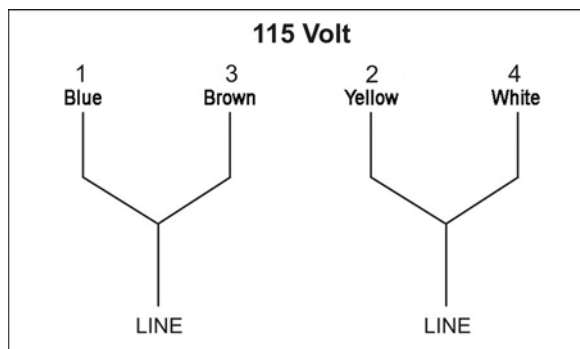

Figure 12
1. To switch the incoming power leads for 230 volt operation, follow the wiring diagram on the inside cover of motor junction box. Similar diagrams are shown in Figures 12/13.